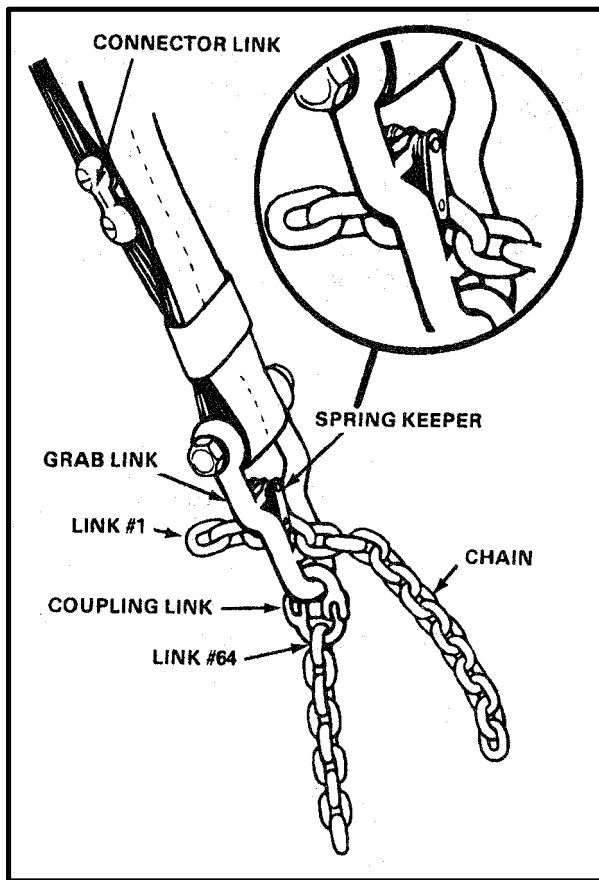

Figure 6-20. Grab Link with Spring Keeper
**c. Grab Link Assembly.** The next item on the sling set, the metal grab link, is attached to the lower end of the nylon web sling leg. This grab link is equipped with a spring-loaded keeper as shown in the inset of Figure 6-20. At the lower end of the grab link you will see the coupling link that is used to connect the chain leg to the grab link.